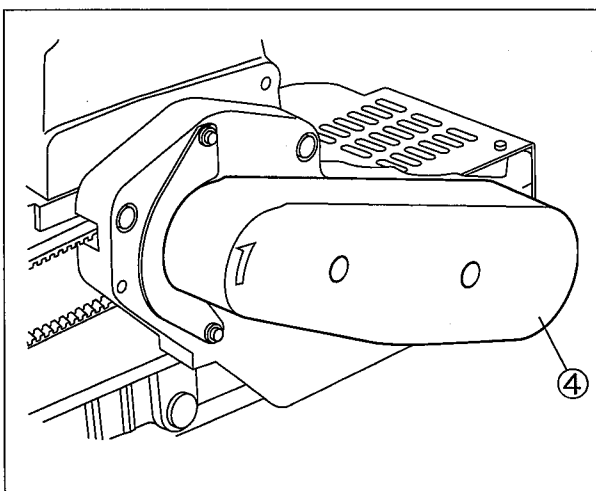

Fig. 16
- (3) Reset the belt cover ④. (Fig. 16)